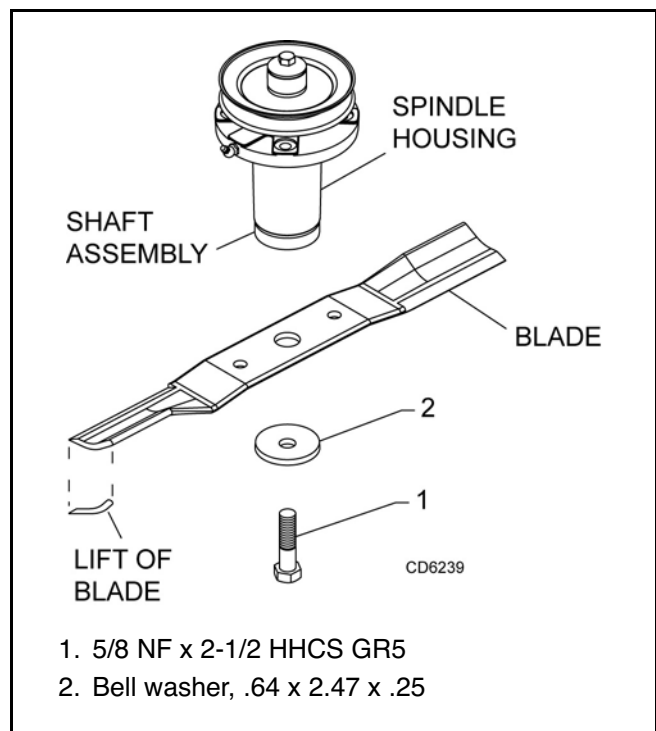

Figure 9. Blade and Spindle Assembly
1. Remove bolt (1) which has right hand threads, Figure 9.
■ **When installing blade, the lift of the blade must be toward the spindle blade housing as shown in Figure 9. Torque bolt (1) into shaft assembly to 100 lbs-ft.**
2. Place bell washer (2) over blade and insert blade bolt (1). Torque blade bolt to 100 lbs-ft.